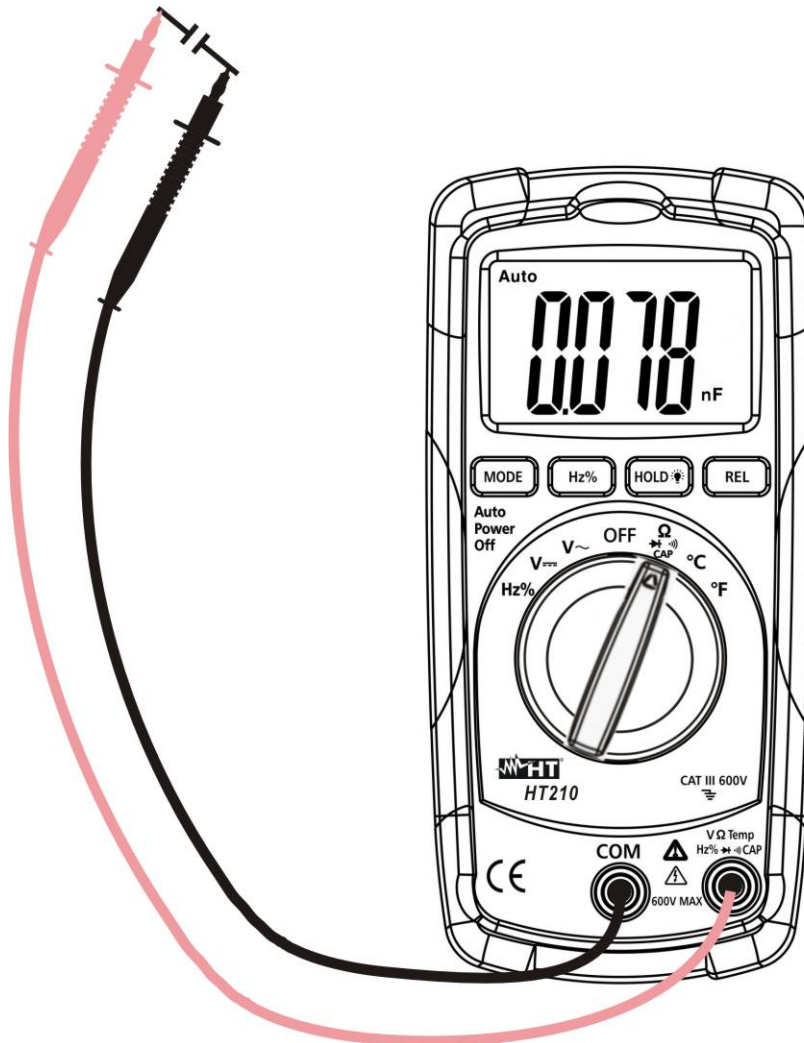

Fig. 7: Using the instrument for capacitance measurement
3. Insert the test leads into the jacks, the red plug into **VΩTempHz%CAP** jack and black plug into **COM** jack (see Fig. 7)